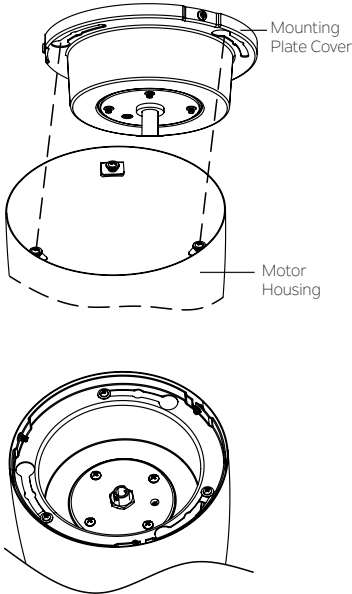

Fig. 12b
**Step 2.** Twist the motor housing clockwise until three screws lock at the end of the slotted holes. (Fig. 12b)